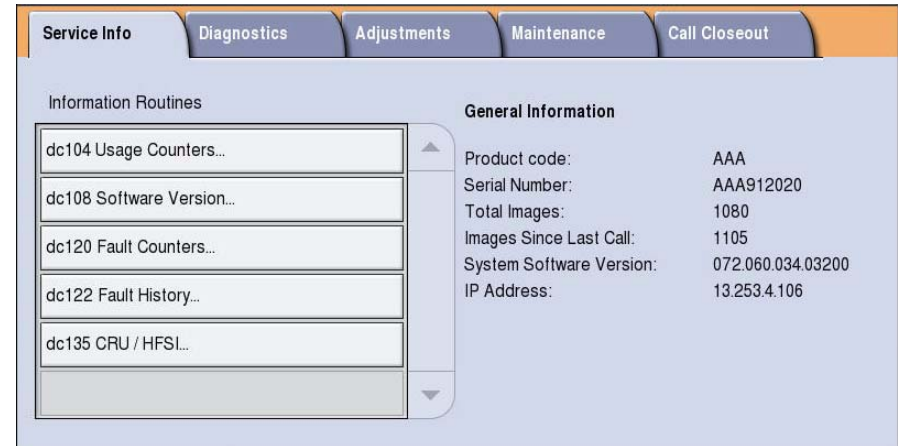

Figure 1 Service Diagnostics Interface
4. The Service Info tab is displayed upon entering Service Diagnostics (Figure 1).